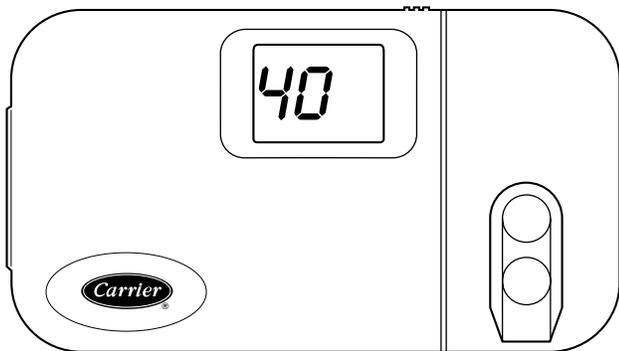

Fig. 18 - Lowest Temperature Setting
1. Set your room thermostat to the lowest temperature setting. (See Fig. 18.)